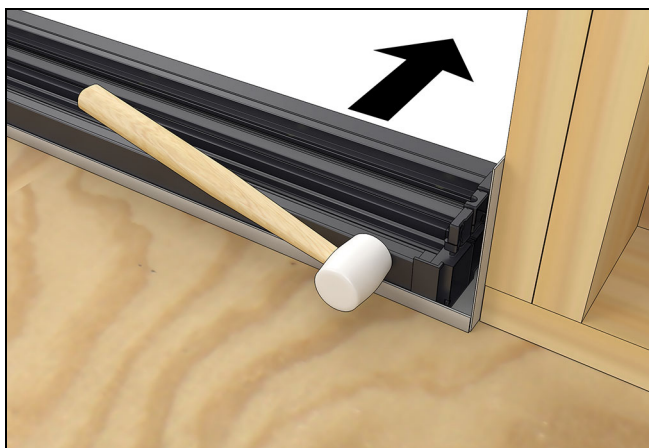

Figure 13 Interior view
7. Remove the sill from the sill support. Tap on the sill with a rubber mallet to release it from the sill support. See Figure 13.